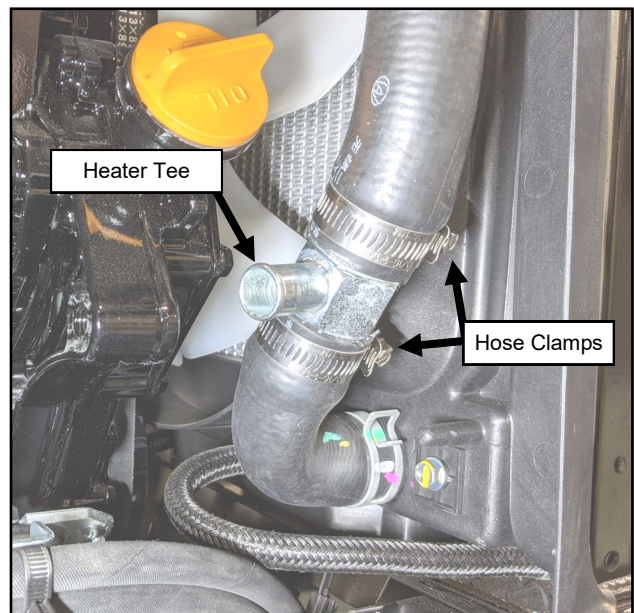

Fig. 18.3 (Tee Fitting)
- 18.3 Cut the lower radiator hose 1.5" above the lower bend. Then cut an additional inch off of the end still attached to the engine to make room for the heater tee. See Figure 18.3.
- 18.4 Install the supplied tee fitting and one of the large hose clamps to the bent piece of radiator hose leaving the clamp loose for now. Install the assembly back onto the radiator with the original clamp. See Figure 18.3.
- 18.5 Attach the lower radiator hose to the other side of the tee fitting with the remaining large hose clamp. Inspect the lower radiator hose to confirm it is not pushed up against any sharp edges and further trim to length if necessary. Orient the Tee fitting per figure 18.3 and tighten the clamps.